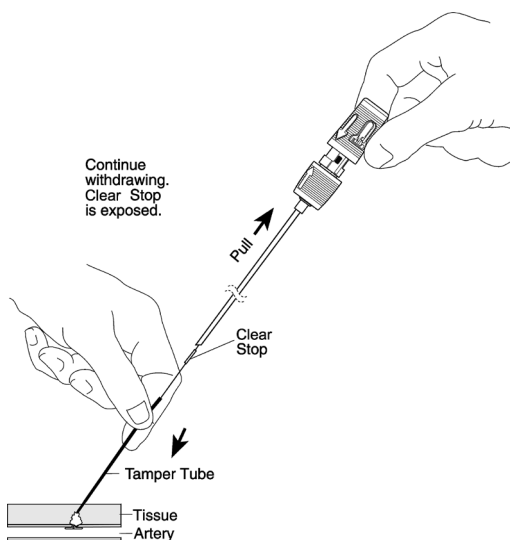

Fig. 14
3. Continue to withdraw the insertion sheath and device until the clear stop on the suture appears (Figure 14). Continue to pull until all of the suture has been deployed. The suture will then lock within the device cap where it is attached. Maintain tension on the suture.